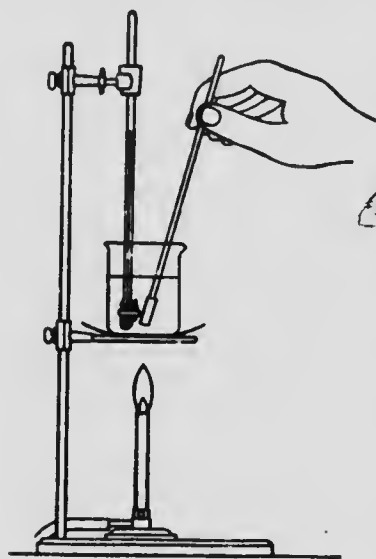

FIG. 47.
**Sketch.**—Fig. 47.
Set up the apparatus as shown in Fig. 47.